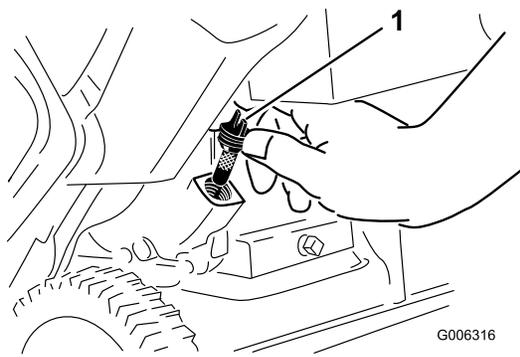

Figure 31
- Clean around the oil fill cap (Figure 31).
7. Unscrew the oil fill cap and remove it (Figure 31).